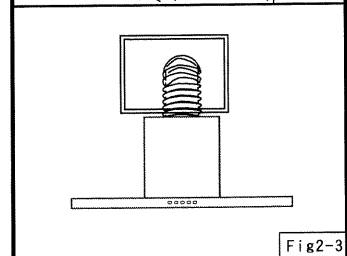

Fig2-3
7. Installation of Exhaust Pipe (Fig2-3,2-4)